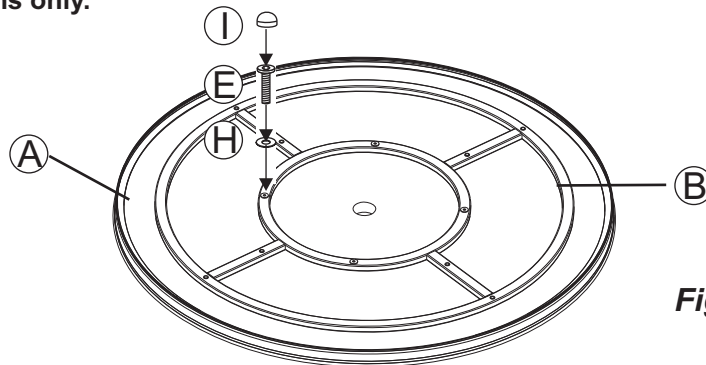

Figure 1
- 1 Working from behind the chair, have another person stand in front of the chair and position the sling seat frame in between the arms of the seat base as shown in **Fig.1** so that the holes on both sides of the upper portion of the seat frame back align with the fixed nut holes in the seat base.
- 1 Place the table top upside down on a flat, non-abrasive surface. Attach the top connector bracket to the table top by using four bolts and $\text{Ø}20 \times \text{Ø}6.5 \times 1.0$ mm washers as shown in the **Figure 1**. Guide the bolts through the holes in the top connector bracket, into the pre-drilled holes in the table top. **Hand tighten 2-3 turns only.**